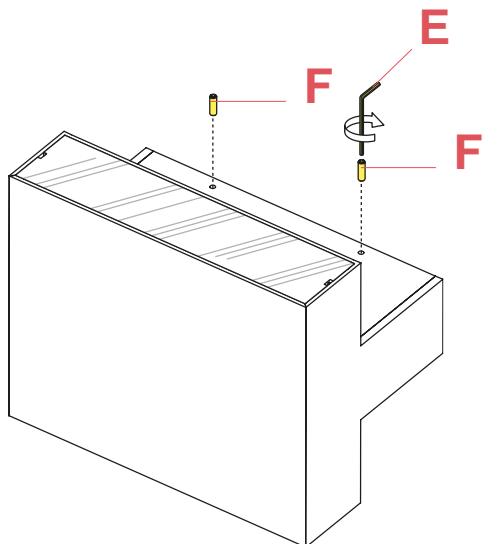

Fig.1
Lock the lamp to the wall attachment by fastening the screws (F) through the Allen key tool (E).(Fig.1)